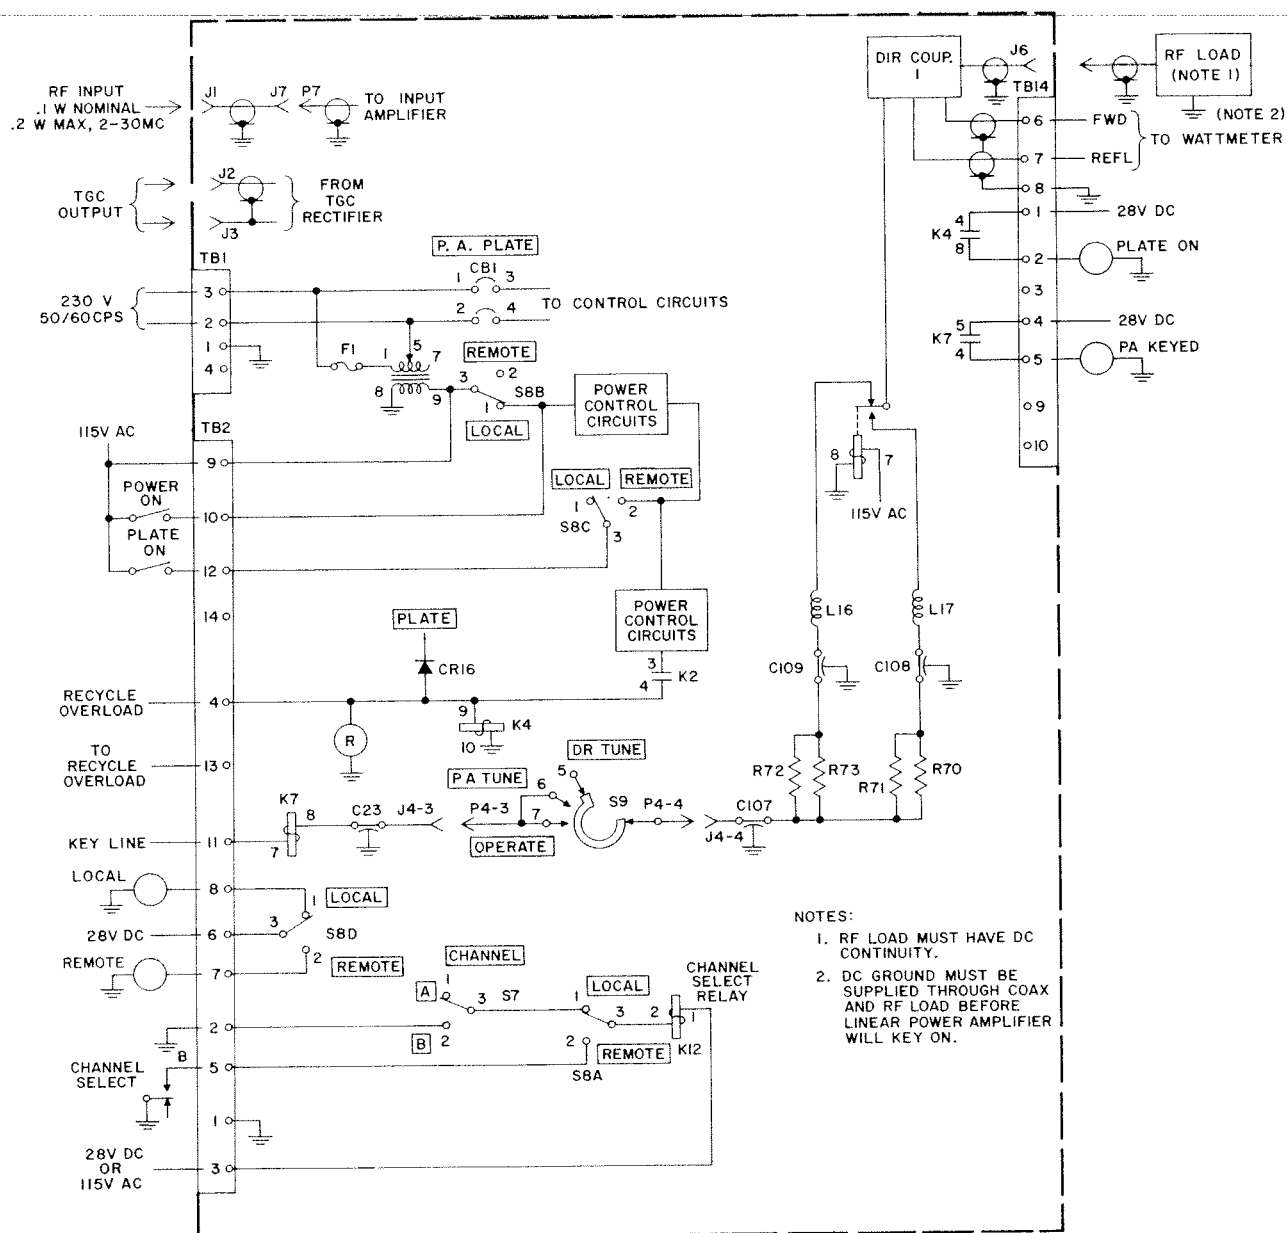

Figure 2-2. Linear Power Amplifier 204F-1, External Circuit Connections
2.2.3 EXTERNAL CONNECTIONS. External primary power, r-f signal, and control circuits are shown in figures 2-2 and 2-3.